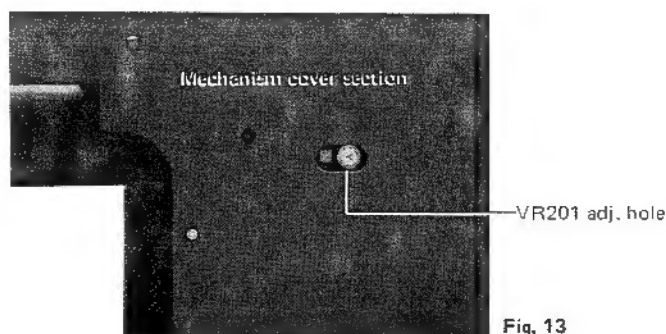

Fig. 13
### 6-(3) Tonearm following sensitivity adjustment (Fig. 13)